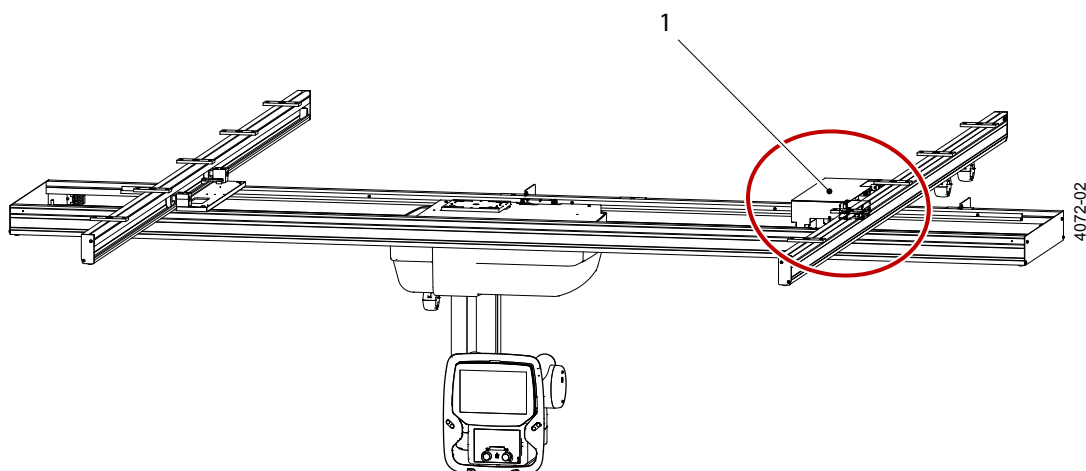

Fig. 4-17 Mounting position of drive unit (1)
The drive unit (1) must be mounted at the right side of the traverse, see **Fig. 4-17**.